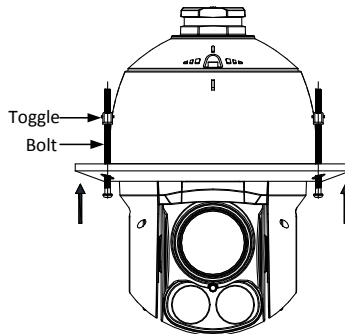

Figure 2-20 Install the Toggle Bolts
- 4) Install the toggles back as shown in Figure 2-20.